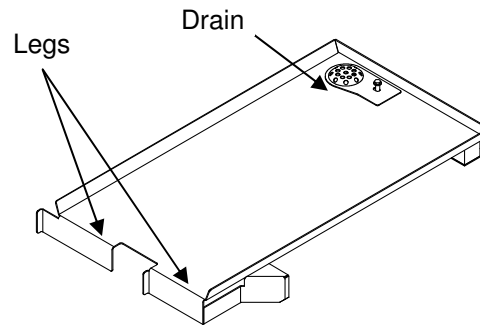

Figure 3-4 KleanShield™
- 5) KleanShield™ legs must be flush against the bottom of the steamer. See Figure 3-4.